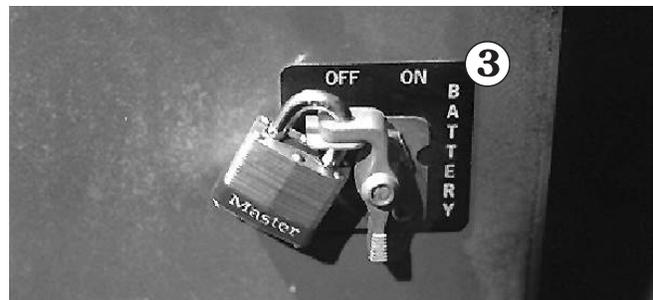

Figure 10.6
2. Set the **Battery** switch **3** (see Figure 10.6) to OFF and padlock it.